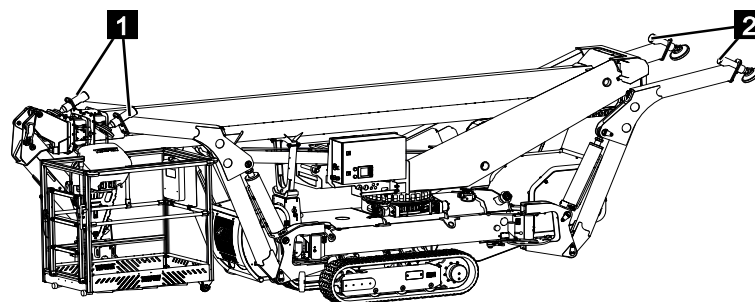

Fig. 148
- Outriggers 1 and 4 (Fig.148/1) are in transport position 1.
- Outriggers 2 and 3 (Fig.148/1) are in transport position 2.